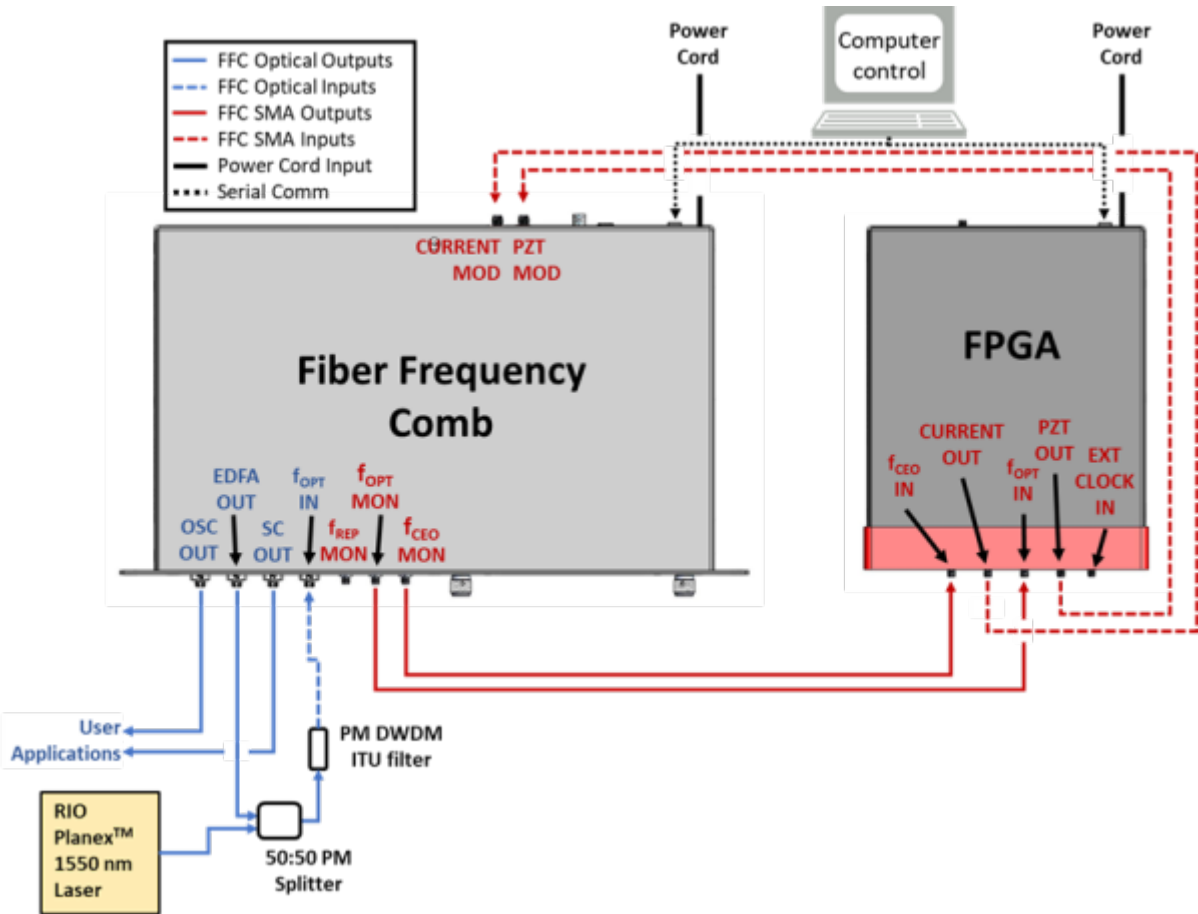

Fig. 2: FFC-100 electrical and optical connection diagram (Click for larger image)
1. Ensure all cables and fibers are connected according to the connection diagram figure 2.²⁾